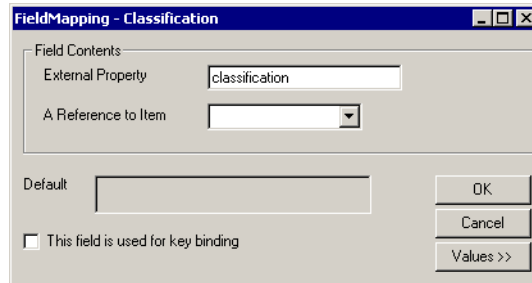

Figure 26: Field Mapping - Classification Window
- The next step is to associate the Internal Attributes with the External Property. Double-click on the entry which has a field value of **Classification**. The Field Mapping - Classification window opens as shown in Figure 26.